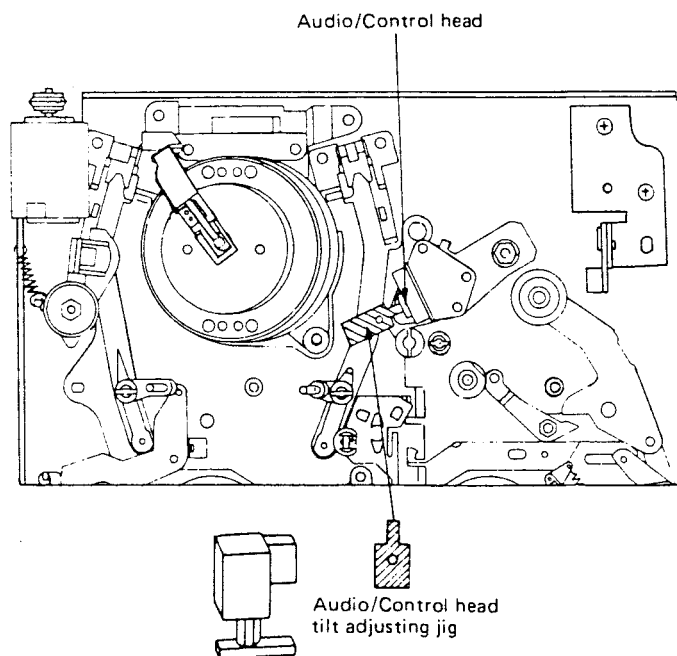

Figure 1-15.
1. Put the unit in the unloading mode. Set the audio/control head tilt adjusting jig on the main chassis as shown in Fig. 1-15. For details, also see Fig. 1-15. Using a philips screwdriver, slowly turn the adjusting screw until there is no clearance between the jig and audio/control head. (See Fig. 1-20)